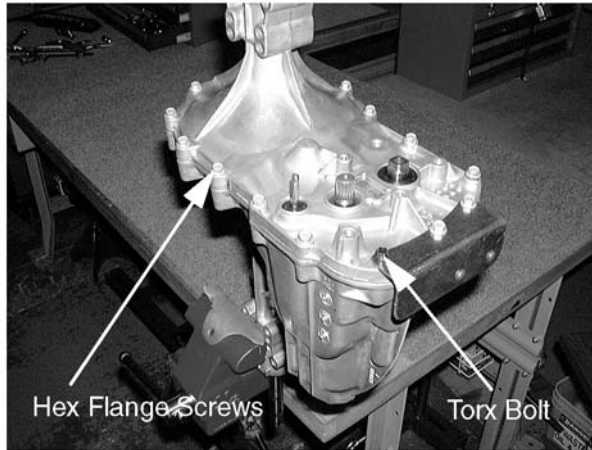

Figure 6-56.
12. Place the hydrostatic transaxle in a vice with the outer perimeter hex flange screws facing up. See Figure 6-56.